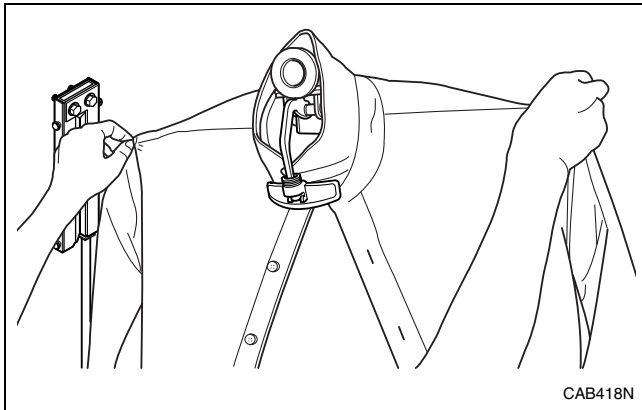

Figure 6
2. Using your right hand, bring the shirt around the buck and let it rest in position. Grasp extreme ends of shirt yoke with both hands. Stretch yoke and center shirt on the buck. Refer to *Figure 6*.